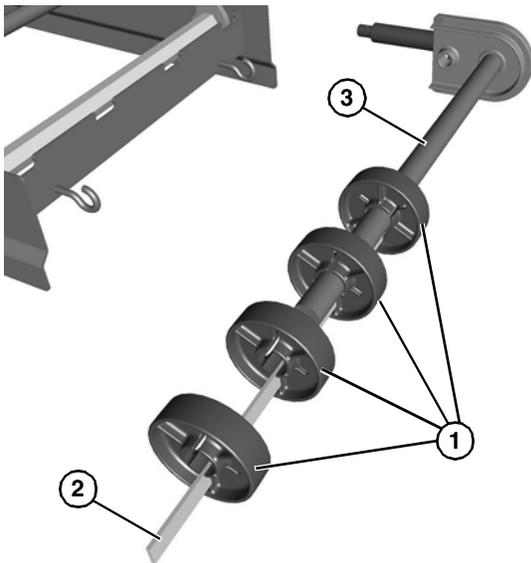

Figure 71
- Place the pucks (Figure 71, item 1) onto the alignment bar (Figure 71, item 2), and install onto the idler shaft (Figure 71, item 3).
- Slide all the idler pucks (Figure 71, item 1) along with alignment bar onto idler shaft (Figure 71, item 3).